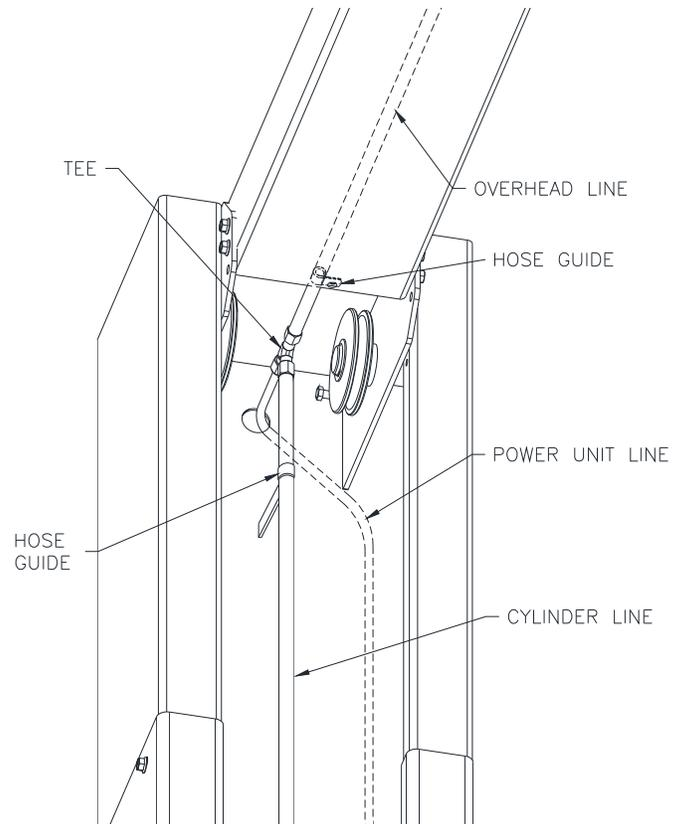

Fig. 11– Power Side Column Ext. Hyd. Routing
20) Connect the cylinder line to the overhead line using a tee. Install the power unit line to the tee in the Power column and to the power unit outlet port. Install hose clamps with a 3/8"-16 x 3/4" hex flange bolt and 3/8"-16 hex flange nut. Install (2) hose clamps in overhead and (1) hose clamp in each column extension (Fig. 11).